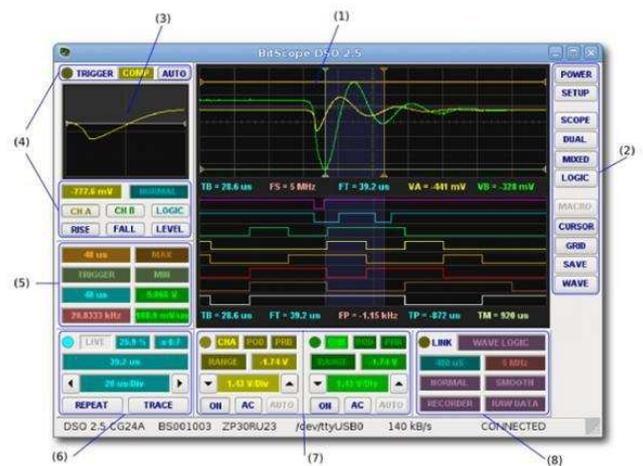

**Figure 1:** Connecting the BitScope Micro to your Raspberry Pi via USB
4) When the installation procedure has finished, connect the BitScope Micros USB port to the Raspberry Pi as shown in Fig. 1. You will need a powered USB hub to do so, because normally both USB ports of the Raspberry Pi are in use for the keyboard and the mouse.